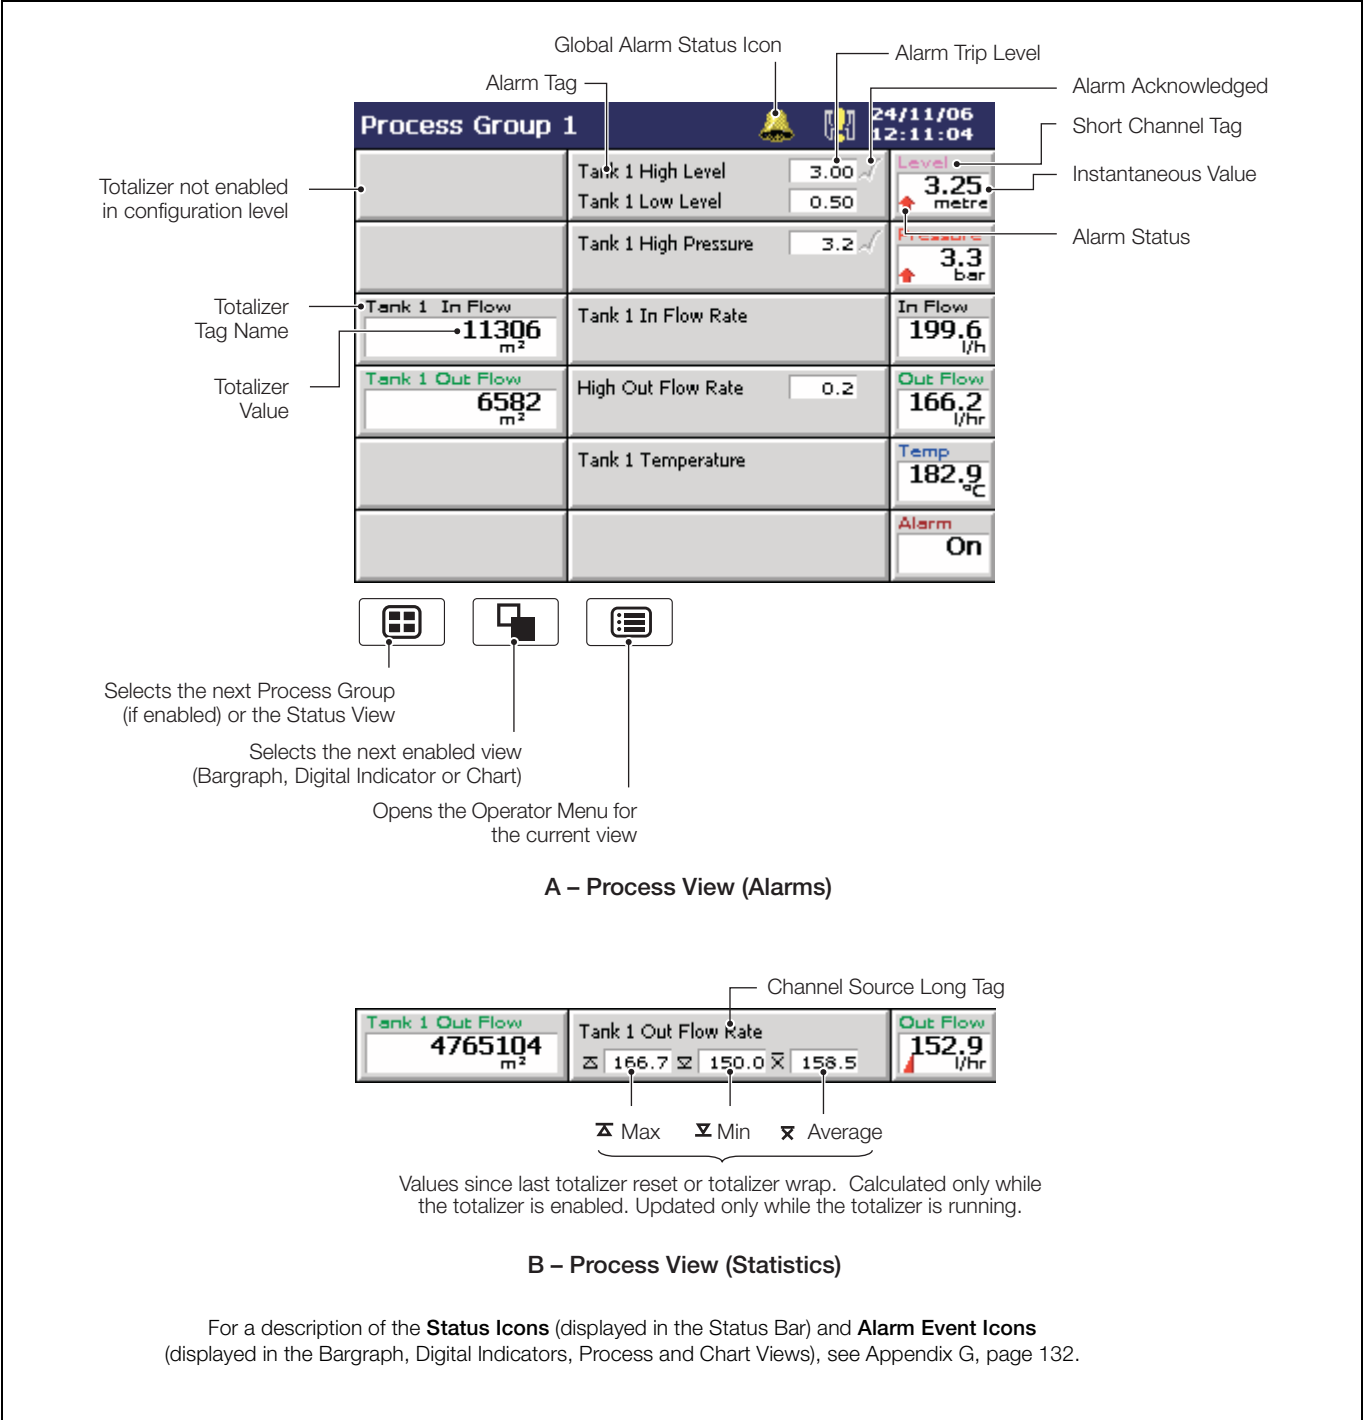

Fig. 2.7 Process View
2.6 Process View – Fig. 2.7
Note. Active unacknowledged alarms in the current process group are identified by a flashing red Alarm Event icon in the bottom left hand corner of the associated indicator. Active acknowledged alarms are identified by a continuous red Alarm Event icon in the bottom left hand corner of the indicator – see Fig. 2.7, page 20.